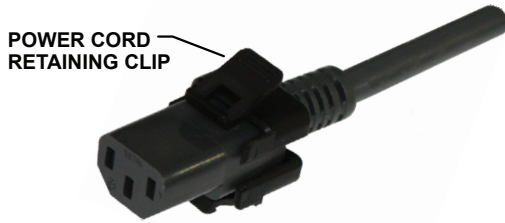

Figure 47. Power Cord
1. Ensure the power cord is not frayed, pinched, or otherwise damaged (Figure 47).